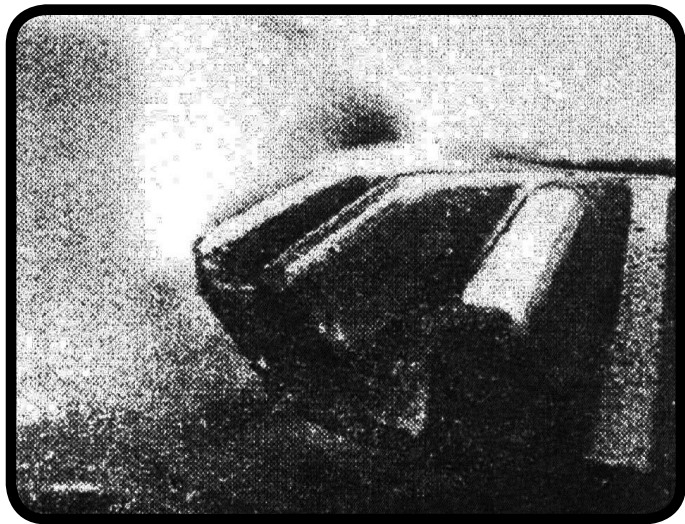

Figure 6
c) Heavily used side gear (Figure 6). Note the depression worn in the sides of the teeth, tops “rolled” smooth, and highly polished surfaces. Will not function—should be replaced.